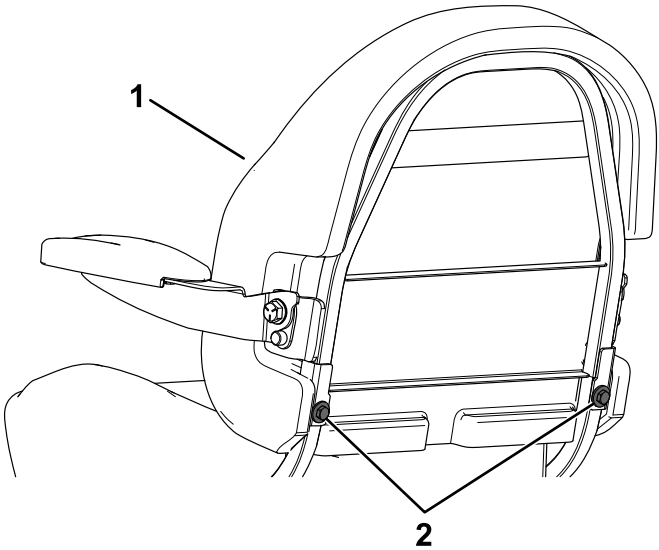

Figure 1
2. Secure the seat back using 2 flanged-hex bolts and 2 nuts (Figure 1). Torque the bolts to 24 N·m (18 ft-lb).